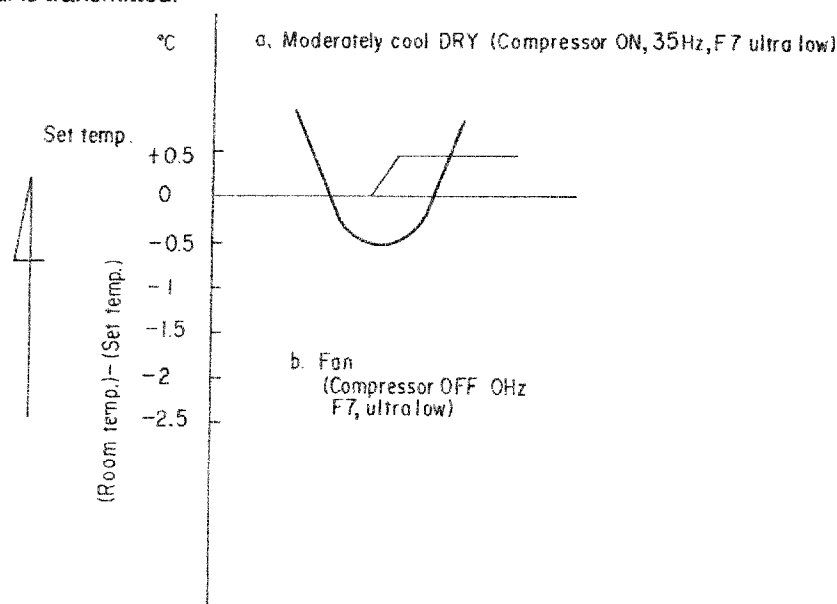
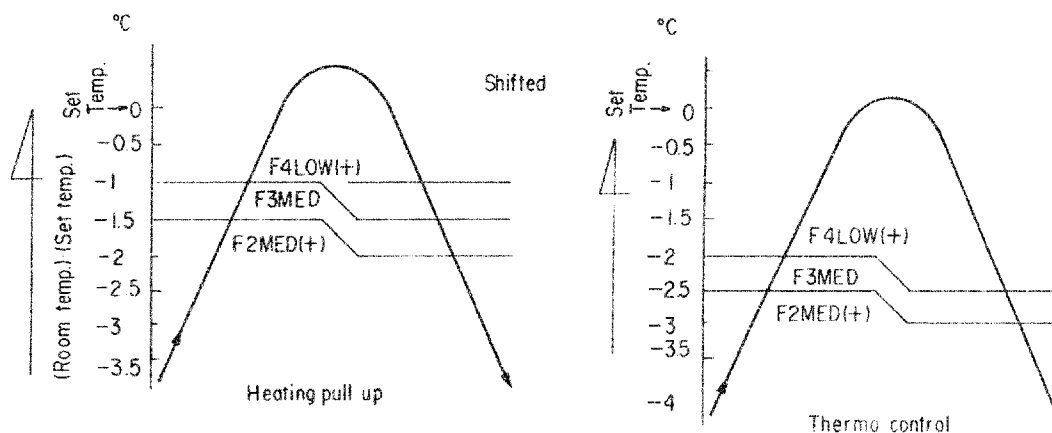

Fig. 4
Fig. 5
- If room temperature is higher than set temperature, indoor fan motor is operated at ultra-low as shown in Fig. 4, while outdoor unit controls outdoor fan relay K1 in accordance with operation signals sent from the indoor unit and also performs control on the compressor motor speed.
- When room temperature is lower than set temperature, indoor fan motor is operated at ultra-low as shown in Fig. 4 while the outdoor unit stops.
(4) HEAT operation (The remote control MODE button is set to the HEAT position)
- When the SELECTOR knob is set to AUTO, the indoor fan motor operates as shown in Fig. 5, and when the knob is set to LOW, MED, or HIGH, the motor operates with a constant air volume.
- When the current drops to 15.0A (at 220V) or 13.5A (at 240V), the capacity is controlled as shown in Fig. 5.